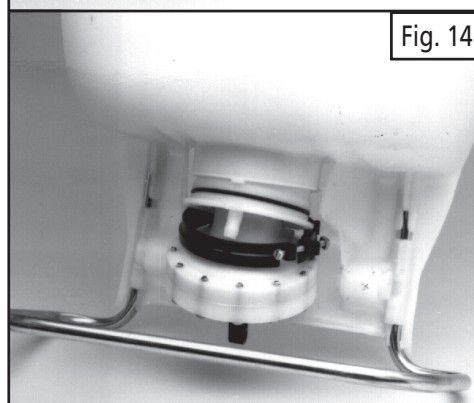

Fig. 14
- 3) Push the pressure cylinder approximately 1" out of the bottom of the tank. Then turn the pump assembly 1/2 turn. (See Figure 14). Push pressure cylinder from sprayer.